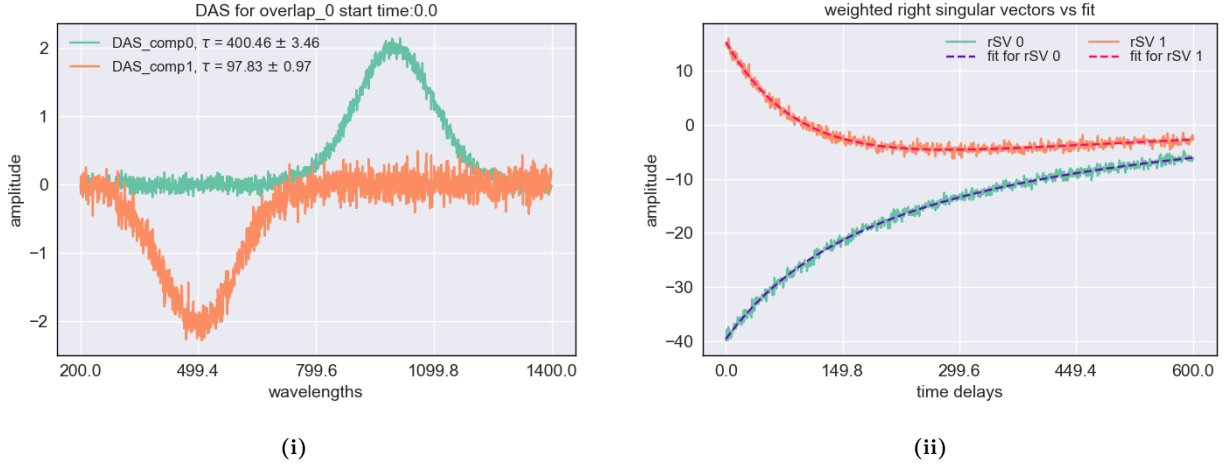

Figure 0.8 – The resulting *DAS* and the weighted right singular vectors as well as their reconstructions using the resulting fit parameters in equation (??).
The resulting *DAS* can be inspected using the *DAS for tabnr?*-entry ②: simply enter the number of the tab that displays Ψ_{fit} and press the Return key. Also useful may be to check how the weighted right singular vectors are reconstructed by the resulting fit parameters. This can be done with the *rightSVs vs fit*-button in ⑨. In fig. 0.8 these fit results can be seen.